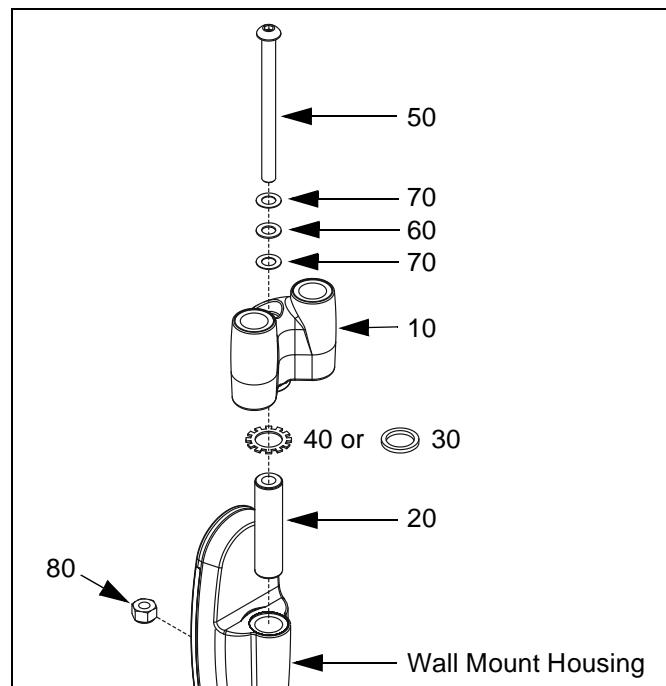

Figure 7: Assemble Y-Connector to Wall Mount
- Install pin (20) into wall mount (See Figure 7).
- Install washer (40) or spacer (30), as desired, on pin (20) (See Figure 7).
- Install Y-connector (10) on pin (20) (See Figure 7).
- Install screw (50) through washer (70), washer (60), washer (70), and Y-connector (10), into nut (80) (See Figure 7).
- Using 3/16" hex key tighten screw (50) as required to maintain desired Y-connector (10) position.